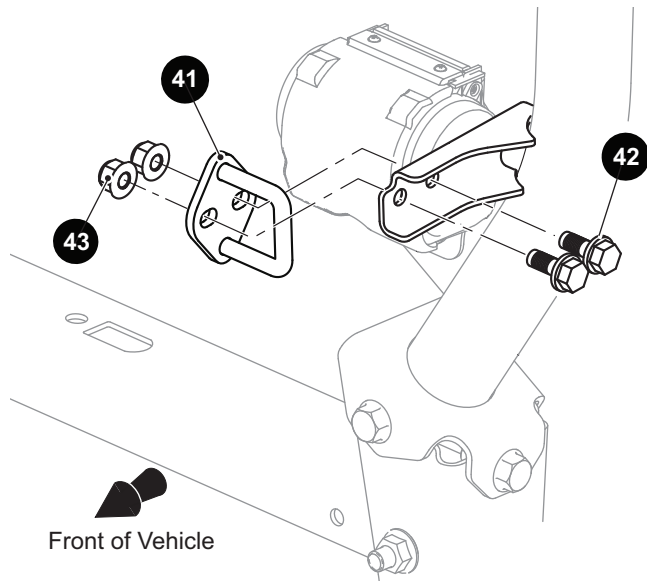

Fig. 10 Striker Plate
1. Remove the bolts (42) and nuts (43) that secure the striker plate (41) to the ROPS tube (See Fig. 10).